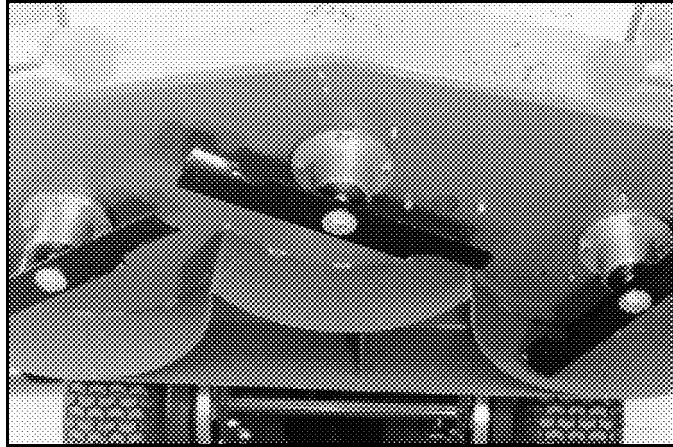

Figure 3 48" Cutting Deck Shown
- b. Tip the mower back and block up the front of the deck. **See Figure 3.**